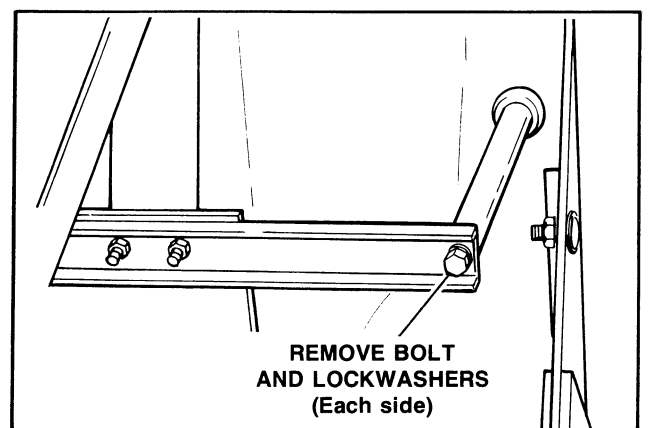

Figure 48 – Angle Bag Rack
25. ANGLE BAG RACK (Figure 48)